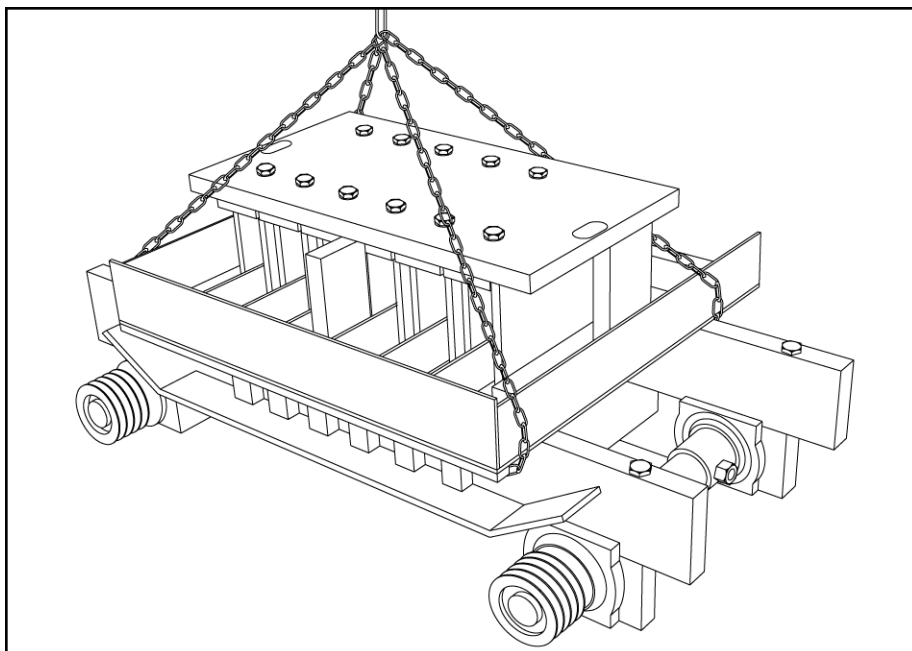

Figure 5.8 MOLD IS CHAINED, READY TO BE TAKEN OUT OF MACHINE
5.3.28 Chain mold as shown in figure 5.8.